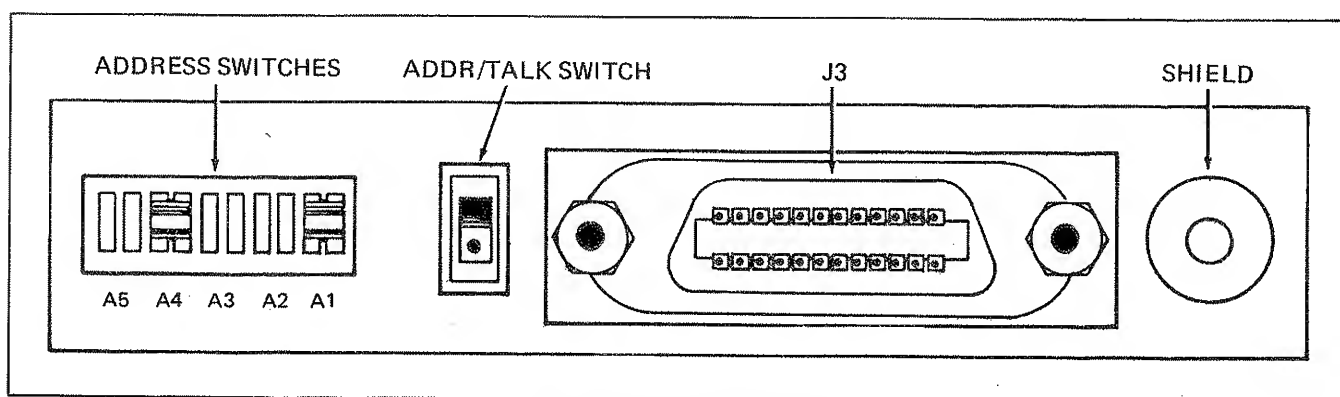

Figure 605-1. Rear Panel Access
8. Set the Interface address switches (A1-A5) as required. Controls and connections accessed through the rear panel are illustrated in Figure 605-1. Refer to Table 605-2 for permissible address settings. Depressing a switch to the bottom sets the associated address bit true (true = 1). TALK address bits T1 through T5 are equal to LISTEN address bits L1 through L5.
605-8. Attached to the assembly and accessible through a port on the rear panel (Figure 605-1) are a standard specified connector, five address switches and a Talk Only Mode switch. The connector is standard for the IEEE bus and is specified by the standard document. The address of the instrument is set using the five address switches. The characters used to address the instrument in the talk and listen mode are given in Table 605-1. The five low order bits of the message determine the address, the next two higher bits differentiate between the Talk and Listen modes. Normal operation allows the instrument to both talk and listen to the bus. The Listen mode can be disabled with the Talk Only switch, if desired.